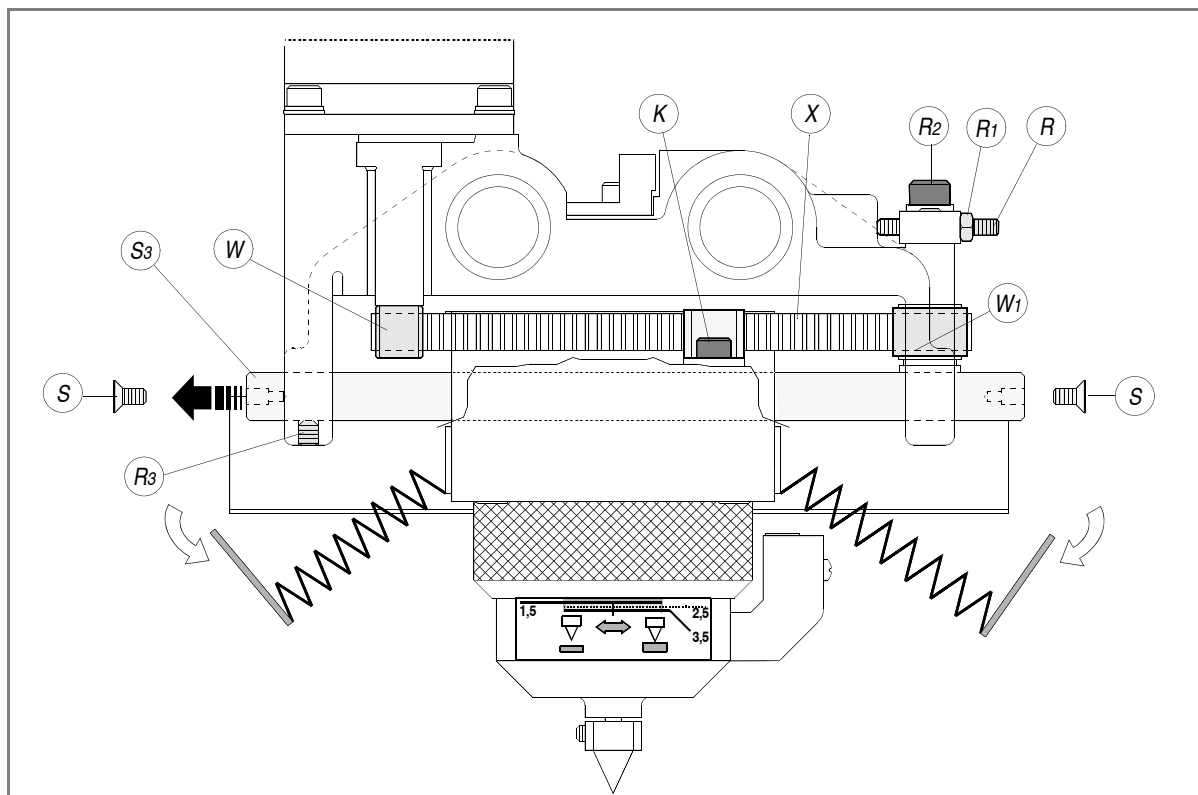

Fig. 37
- 5) remove the four screws (S) securing the bellows (fig. 37).
- 6) loosen screw (R2), the nut (R1) and the belt pulley (R).
- 8) loosen screw (K) until the belt is free (fig. 37).
- 9) place the new belt in position and re-assemble the head, ensuring that the belt (X) is placed on the outside of the pulleys (W) and (W1).
- 11) adjust belt tension by means of the belt tightening pulley (R).